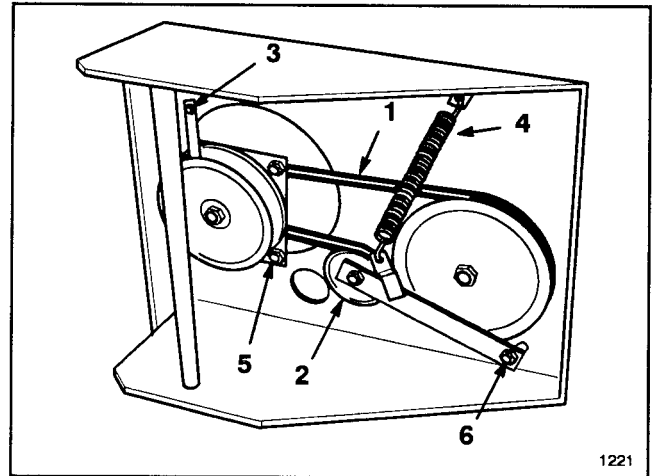

Figure 25
2. Disconnect electric clutch in-line connector from wiring harness. (Fig. 25).
3. Remove left front engine mounting bolt securing clutch retainer to frame. Unhook retainer from clutch and remove (Fig. 25).
4. Unhook tension spring from side of frame (Fig. 25).
7. Install pivot bolt in idler arm. Torque mounting bolt to 35-40 ft–lb. Install tension spring between idler arm and frame bracket (Fig. 25).
8. Install belt around idler pulley (Fig. 25).
1. To adjust clutch, tighten or loosen locknuts on flange studs. (Fig. 25).